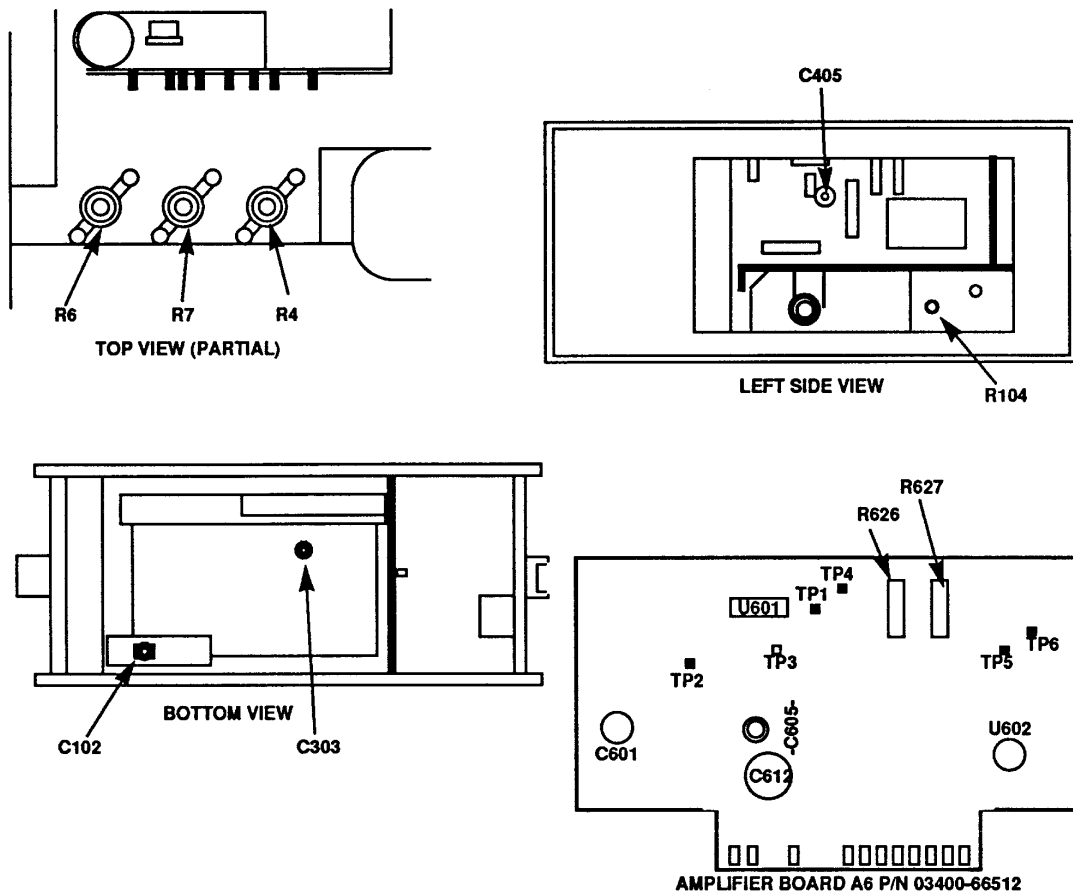

Figure 1. Test instrument - top, left side, bottom view, and A6 board, P/N 03400-66512.
- (1) Adjust R4 (R627 for TIs with amplifier board A6, P/N 03400-66512) (fig.1) until digital multimeter indicates -1.00 V.
- (2) If necessary, adjust R6 (fig. 1) for full-scale indication on TI.
- (3) Set calibrator for a 10 mV, 400 Hz output. Adjust R6 (fig.1) until TI indicates full scale (R).
- (4) Set **RANGE** switch to **.1 VOLTS**.
- (5) Adjust R7 (R626 for TIs with amplifier board A6, P/N 03400-66512) (fig. 1) until TI indicates 0.01 V (1 /10 scale) (R).
- (6) Set **RANGE** switch to **.01 VOLTS**.
- (7) Repeat (3) through (6) above until no further adjustment is necessary.
- (8) Set calibrator for a 1.0 V, 400 Hz output. Adjust R104 (fig. 1) until TI indicates 1 (R).
- (9) Set calibrator for an initial 900 μ V, 1 kHz wideband output, then adjust for the TI indication record for table 3 (0.0009 V).
(10) Press calibrator **NEW REF** pushbutton, then set frequency to 10 MHz. Adjust C405 (fig. 1) for the 1 kHz reference established in **b(9)** above (R).
(11) Vary calibrator frequency between 3 and 10 MHz and if required, readjust C405 (fig. 1) for best in-tolerance condition.
(12) Set calibrator for an initial 0.9 V, 1 kHz wideband output, then adjust for the TI indication recorded for table 3 (0.9 V).
(13) Press calibrator **NEW REF** pushbutton, then set frequency to 100 kHz. Adjust C102 (fig. 1) for the 1 kHz reference established in **b(12)** above (R).
(14) Vary calibrator frequency between 100 kHz and 10 MHz and, if required, readjust C102 (fig. 1) for best in-tolerance condition.
(15) Set calibrator for an initial 0.3 V, 1 kHz wideband output, then adjust for the TI indication recorded for table 3 (0.3 V).
(16) Press calibrator **NEW REF** pushbutton, then set frequency to 3.0 MHz. Adjust C303 (fig. 1) for the 1 kHz reference established in **b(15)** above (R).
(17) Vary calibrator frequency between 3 and 10 MHz and, if required, readjust C303 (fig. 1) for best in-tolerance condition.